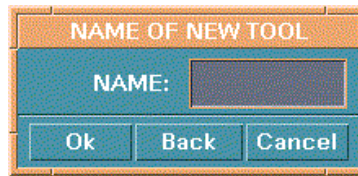

Figure 5.1.2 Name of New Tool
2. Select NEW and the NAME OF NEW TOOL window displays, see Figure 5.1.2. The user can also rename or delete a tool by selecting the other buttons.